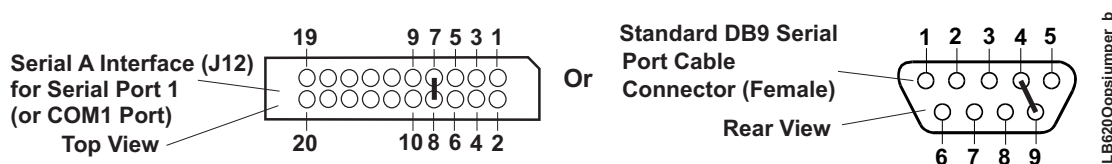

Figure 3-1. Oops! Jumper Connection
To convert the Serial A interface to an Oops! jumper, short together the DTR (7) and RI (8) pins on Serial A (J12) header for Serial Port 1. As an alternate, short the equivalent pins, 4 and 9, on the back of the Serial Port 1 DB9 cable connector as shown in Figure 3-1.